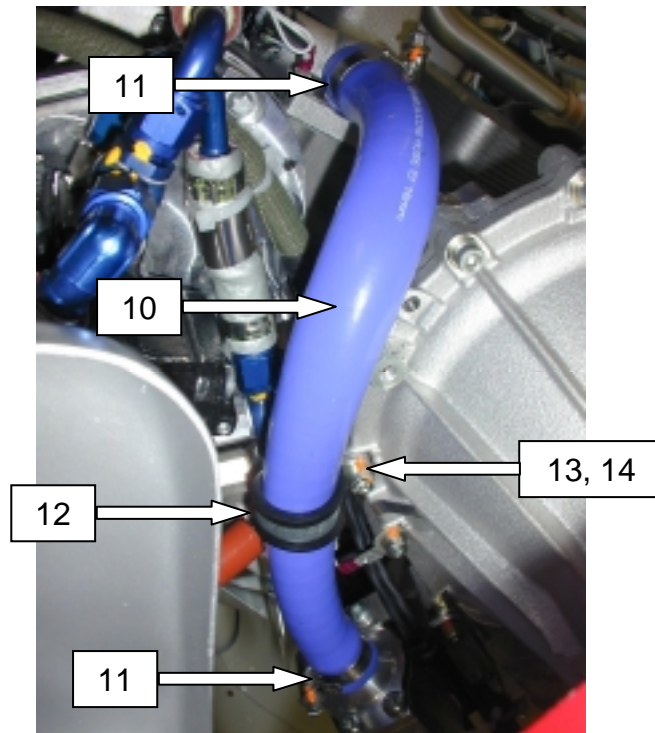

Fig. 75.2d Coolant hose to gearbox oil cooler
The new cooling necessary parts (except the extension cable) are provided by CEAPR in the "Gearbox installation kit" (P/N 54.81.00.420), see following table and figures 75.2d to 75.2f.
Mount the hose (item 10, P/N 54.81.67.150) between engine and oil/coolant heat exchanger using two hose clamps (item 11, P/N 54.81.00.073). See fig. 75.2d
Attach the hose to the gearbox using a clamp (item 12, P/N 67.81.00.126), a hexagon screw (item 13, P/N 95.12.06.000) and a star washer (item 14, P/N 95.63.03.000). See fig. 75.2d